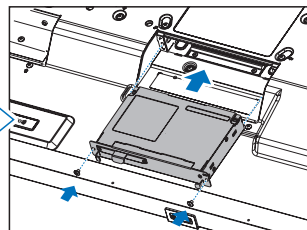

Figure 4
4. Insert the Option Board into the monitor and fix it with the removed screws (Figure 4).